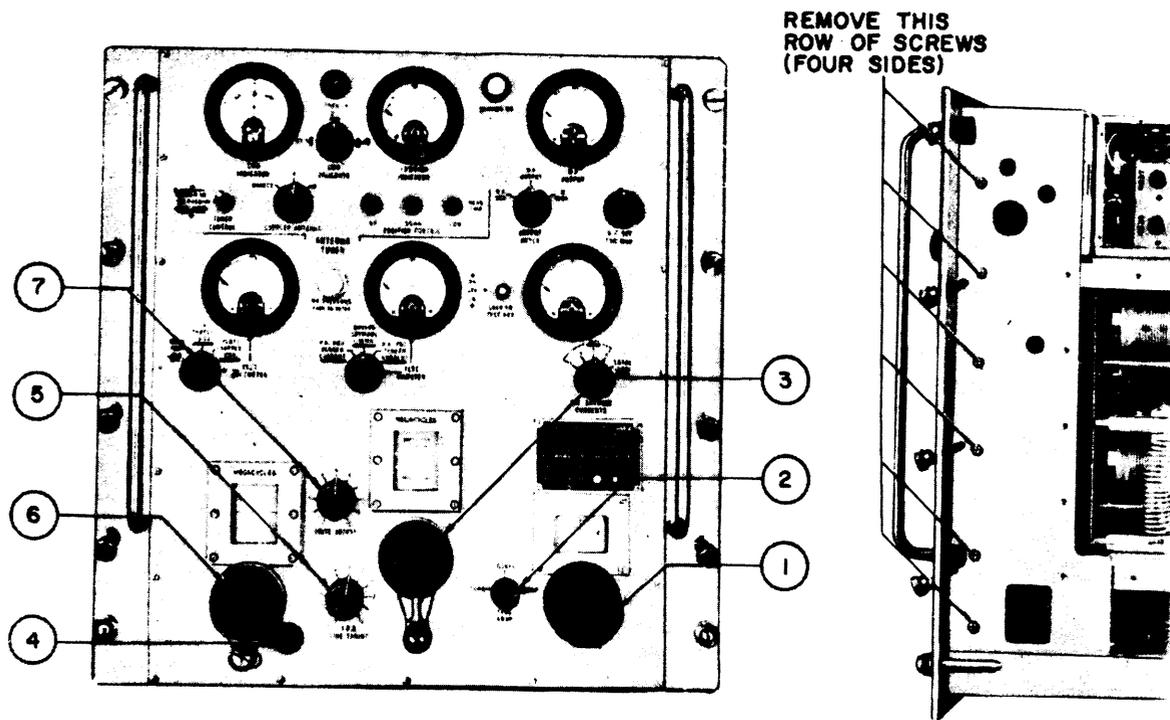

Figure 6-19. Radio Frequency Amplifier AM-2121/WRT-2, Front Panel Removal
Step 3. Rotate the shaft of rotary band switch S601 to place the wiper in the position directly connected to capacitor C667. Turn the TUNING (A) knob until the left dial of the lower counter is at the 0 reading. With this orientation of the shafts maintained, couple the shafts and tighten the set screws.
Step 4. Turn the shaft of capacitor C662 so that the rotor plates are at precisely 90° with the stator plates. To set the plates to 90°, turn the rotor so that the longest half of the plates is unmeshed and open approximately 90°. Place a steel scale against the capacitor sidebar facing the flat edges of the rotor and set the rotor so that the distance between the side bar and the flat edges is $1\frac{1}{3}$ inches. Turn TUNING (B) control knob until the three righthand dials of the lower counter read 500. Rotate TUNING (A) control knob until the lefthand dial of the lower counter reads 2. With the reading maintained on the lower counter, couple the shaft of C662 to the shaft from the counter, and tighten the set screws.
(1) GENERAL.—The majority of electronic components in the Radio Frequency Amplifier AM-2121/WRT-2 are readily replaceable by conventional servicing techniques. The driver subchassis, power amplifier subchassis and the blower assembly require special procedures and they are covered in the following paragraphs. The driver subchassis and the power amplifier subchassis are located immediately behind the front panel and require removal of the panel for servicing. The blower is located in the lower lefthand rear corner of the chassis and is accessible with the chassis extended from the cabinet. Figures 6-19 through 6-22 illustrate the servicing procedures for these subchassis and parts.
(2) FRONT PANEL REMOVAL.—To remove the front panel, proceed as follows:
Step 4. Refer to figure 6-19 and remove the seven control knobs specified.
Step 5. Referring again to figure 6-19, remove the row of flathead screws shown. There are six on each side, two on top and one on the bottom.
(3) DRIVER ASSEMBLY.
Step 1. Turn P.A. TUNING (G) control to 30.0 mc, P.A. COUPLING (H) control to 50 and the TUNE COUP selector to LOCKED. Remove the respective control knobs as well as knobs of I.P.A. TUNING (F) control, I.P.A. FINE TUNING control, DRIVE ADJUST and the lock (numbered 1 through 7 in figure 6-19).
Step 3. Remove the six flat head screws on each side of the panel flange, one flat head screw on the bottom and two on the top (see figure 6-19), and remove the panel. Support the panel on a platform or other device to relieve the strain on the attached cable.